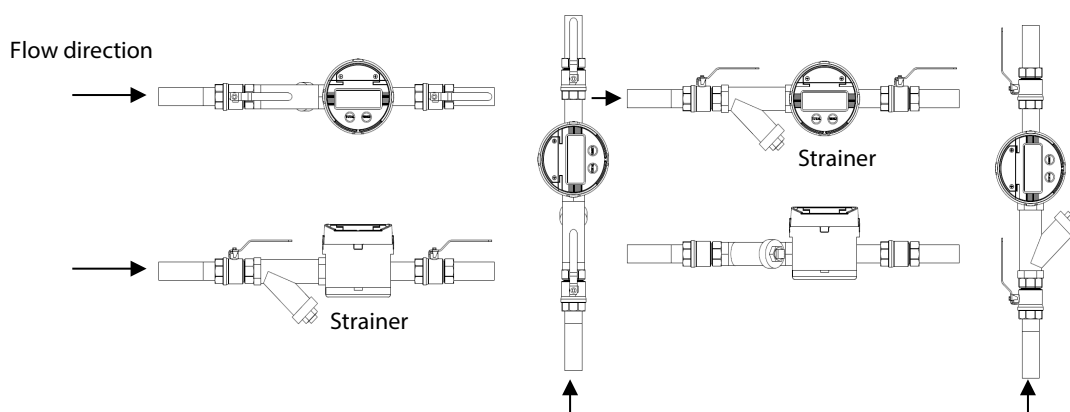

Figure 1: Meter installation
- Make sure to install the meter as shown in figure 1.